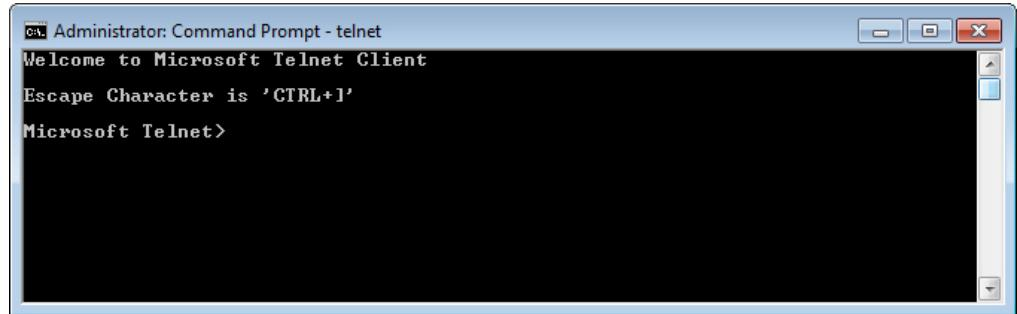

Figure 53. Telnet Window
3. At the C:\ prompt, type **Telnet** and then press <**Enter**>. The computer returns a display similar to the one shown in figure 53.